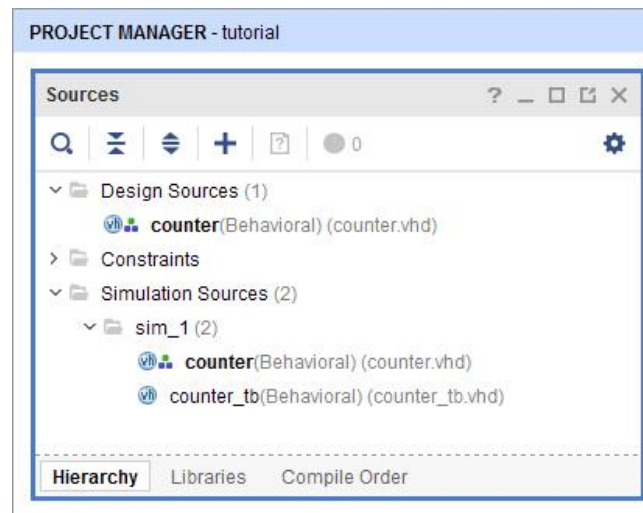

Figure 21
9. The new **counter_tb** simulation file is added to the **Simulation Sources** tree in the **Sources** window (Figure 21)